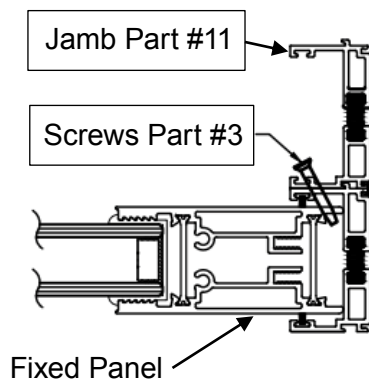

FIGURE 15A
19. Install the fixed panel into the exterior jamb track (Part #11). Secure fixed panel to the frame with the 2 screws (Part #3) provided in the hardware box (use sealant to lubricate screws). Screw through the pre-drilled holes in the center weather strip track of the jamb at 24" above the sill and 24" below the head as shown in figures 15a and 15b.